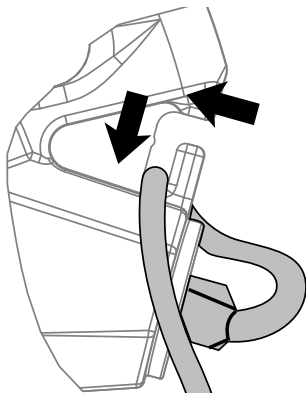

Fig. 9
1. Secure the extension cord to the motor housing as shown (Fig. 9). This prevents accidental removal of the electrical cord.